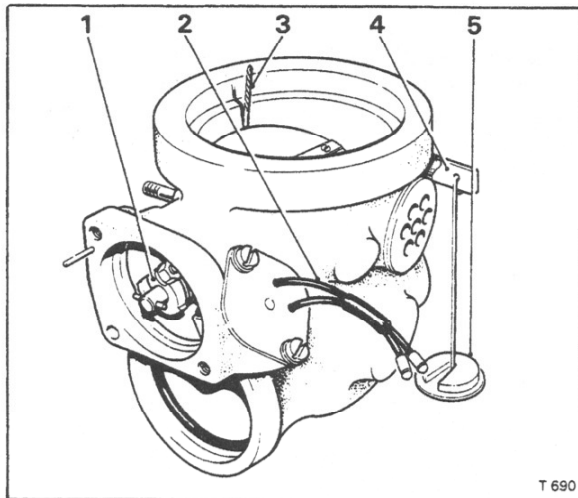

Fig. K92 Lever spring tension
Solenoid lever spring tension (see Fig. K92)
1. Produce a lever 5,08 cm. (2 in.) between centres to fit the choke spindle as shown in Figure K92. Secure the lever in the horizontal position using a 2 B.A. nut and washer.